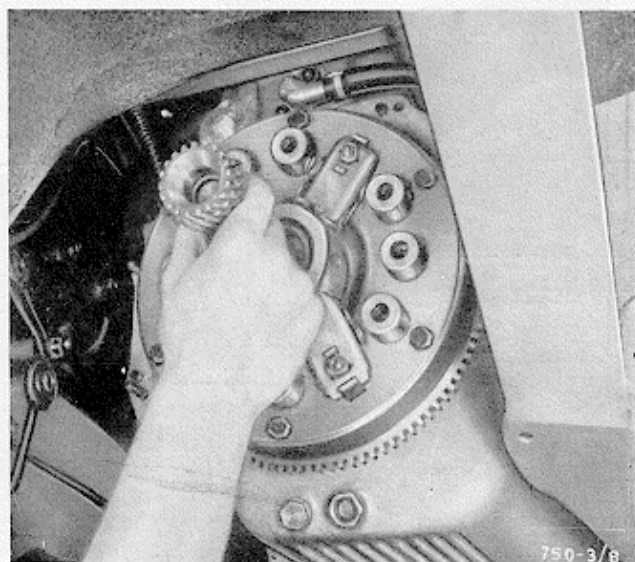

Fig. 8 - Checking the centring of the clutch on the flywheel
- 2) Mount the complete clutch on the flywheel centring it with a bar (Fig. 8) similar to the clutch shaft and making sure that the reference marks made when dismantling coincide (see Section 2, para 1).